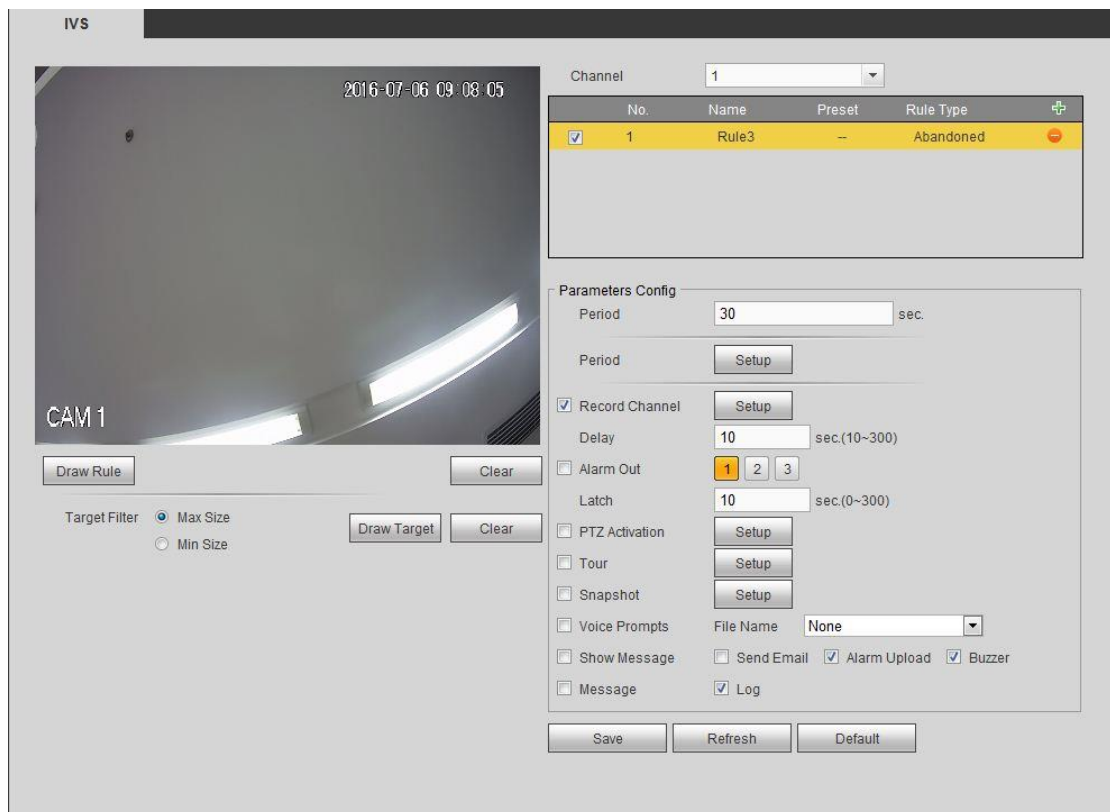

Figure 5-88
Step 2 Check the box to enable abandoned object detection function. See Figure 5-88.